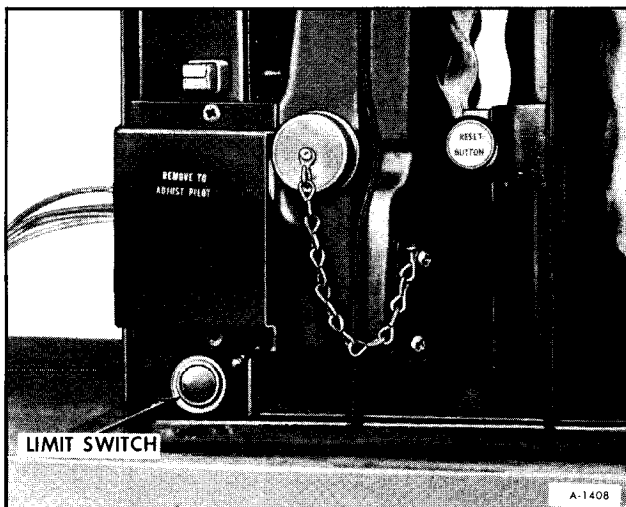

Figure 42—Type I Furnace Limit Switch
2. Disconnect two wires from rear of limit switch located at lower front corner (figure 42).
1. Install limit switch and secure with two screws (figure 42).